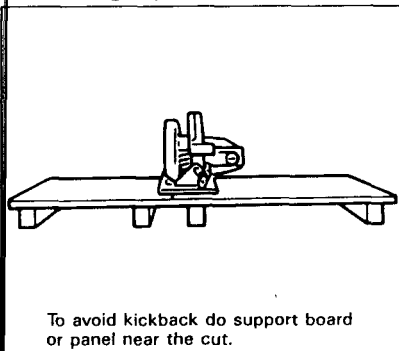

Fig. 1
**Support large panels to minimize the risk of blade pinching and KICKBACK. Large panels tend to sag under their own weight. Supports must be placed under the panel on both sides, near the line of cut and near the edge of the panel as shown in Fig. 1.**